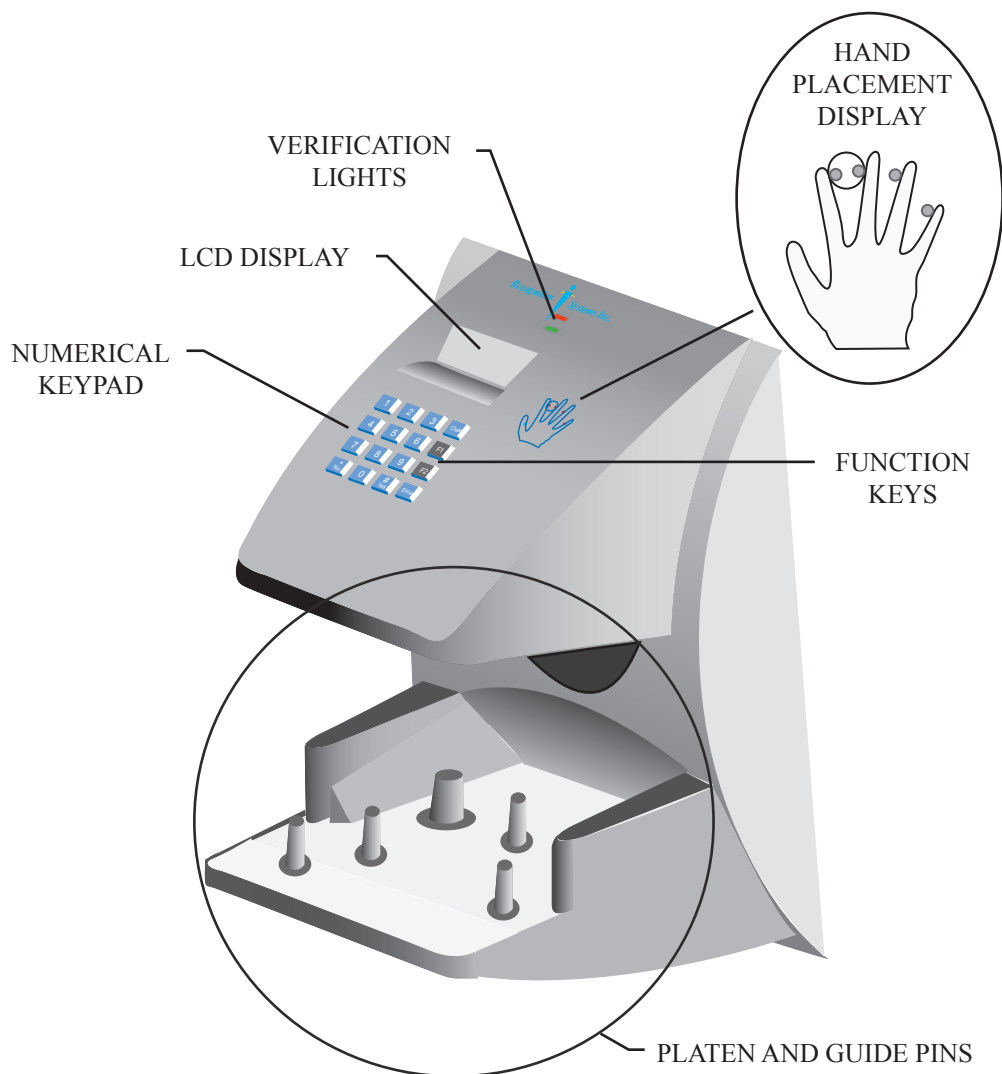

Figure 1-1: The HandKey II
The HandKey II Reader The HandReader is an intelligent access control system that can operate as a stand-alone unit, in a network with other HandReaders, or in a network with a host computer. Refer to Figure 1-1 when reviewing the information in this section.
2. The platen is the flat surface at the base of the HandReader (see Figure 1-1). This is where users place their hands for enrollment and verification. It has guide pins to position the fingers during use.